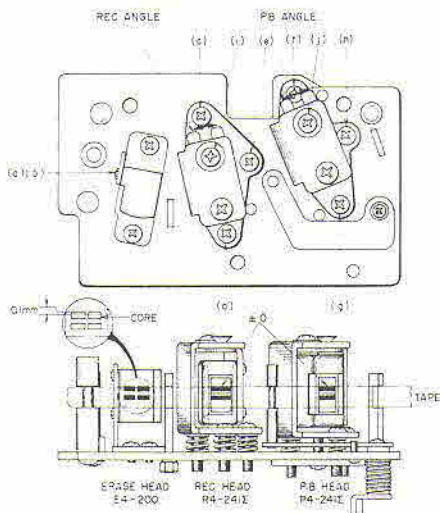

Fig. 10
(Refer to Fig. 10)
Loosen screws (a) and (b) shown in Fig. 10 and adjust erase head height. Tighten screws at position at which the upper edge of the tape is 0.1 mm lower than the upper edge of the left channel head core of the erase head.
Adjust head height adjustment screws (c) and (d) shown in Fig. 10 so that the upper edge of the tape and the upper edge of left channel head core of the recording head are the same height.
Adjust head height adjustment screws (f) and (g) shown in Fig. 10 so that the upper edge of the tape and the upper edge of left channel head core of the playback head are the same height.
ADJUSTMENT (Refer to Fig. 10)
3. HEAD ANGLE ALIGNMENT ADJUSTMENT (Refer to Fig. 10)